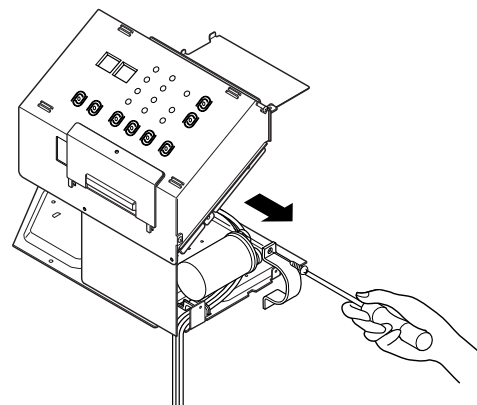

Figure 16
2. Remove 1 screw and disconnect the leads which connected to the box type capacitor. (See Figure 16)